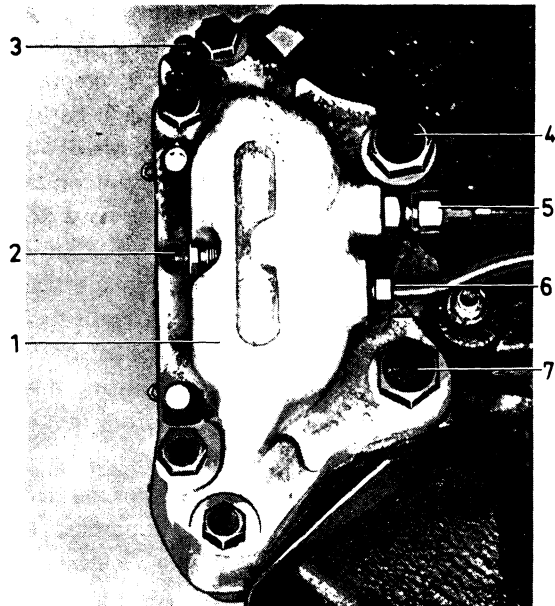
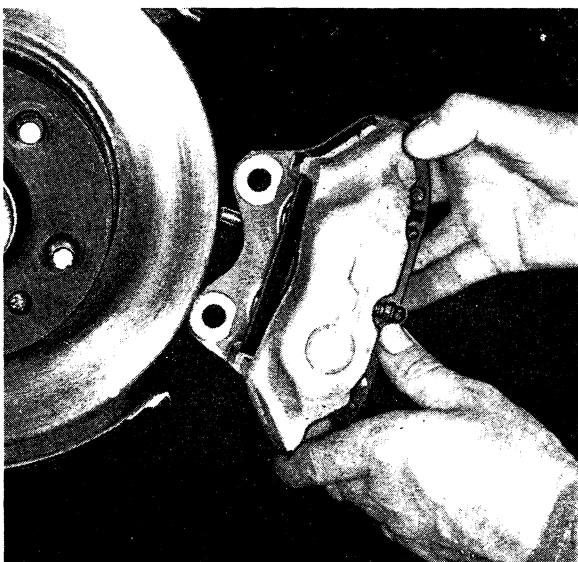

Fig. 6-16. Front wheel brake unit fitted
Fig. 6-17. Removing brake caliper
4. Unscrew the attaching bolts (4 and 7, Fig. 6-16) and remove the brake caliper, see Fig. 6-17. Remove any shims if fitted.